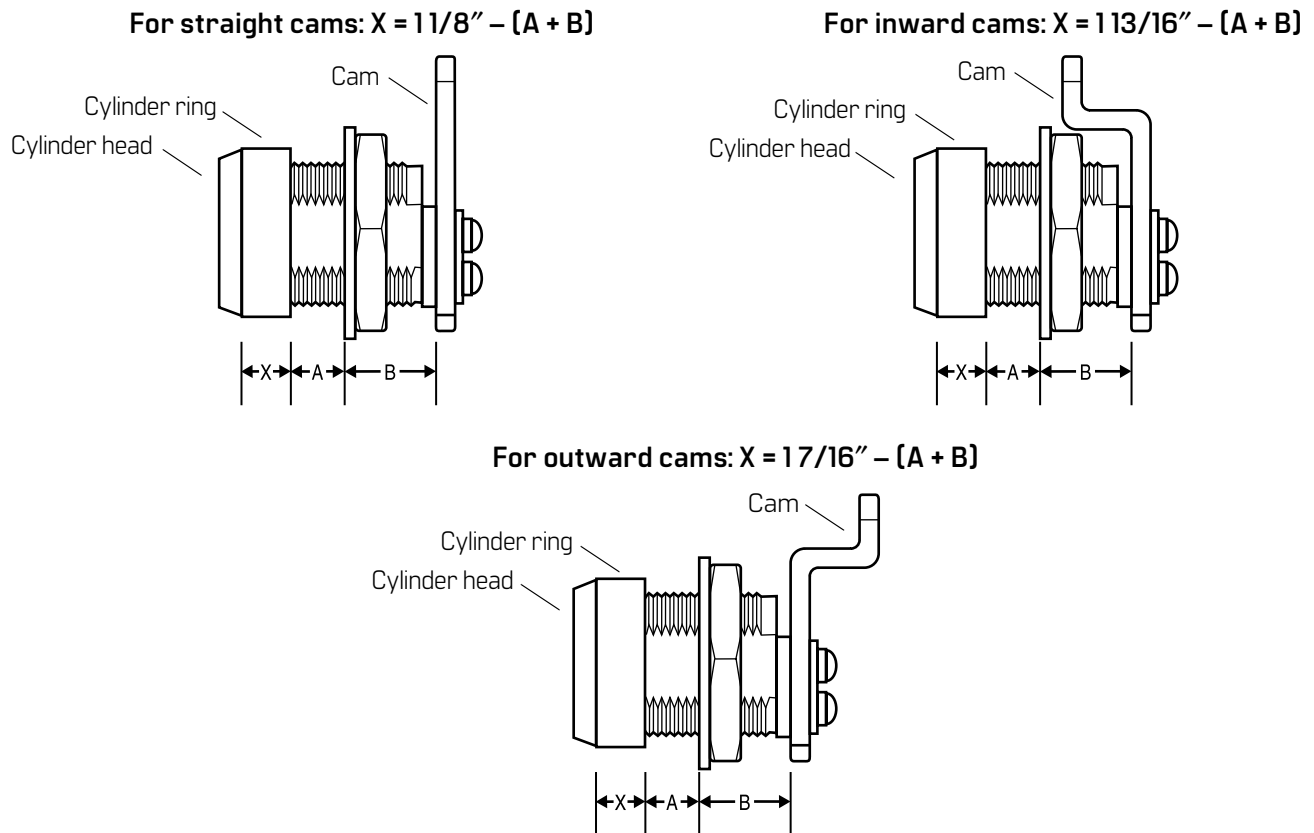

Figure 4.3 Determining the cylinder ring length
A cylinder ring is required if there is a gap between the cylinder head and the mounting surface when the cam is positioned for proper lock operation. To determine what length cylinder ring is needed, see Figure 4.3 and perform the following steps:
1. Measure in inches the thickness of the mounting surface. See length "A" in Figure 4.3.
2. Measure in inches the desired distance from the cam to the inside of the mounting surface. See length "B" in Figure 4.3.
4. *For straight cams*, subtract the total in Step 3 from $11/8''$. The difference is the length of the cylinder ring needed. See straight cam length "X" in Figure 4.3.
For inward mounted cams, subtract the total in Step 3 from $113/16''$. The difference is the length of the cylinder ring needed. See inward cam length "X" in Figure 4.3.
For outward mounted cams, subtract the total in Step 3 from $1\frac{7}{16}$ ". The difference is the length of the cylinder ring needed. See inward cam length "X" in Figure 4.3.